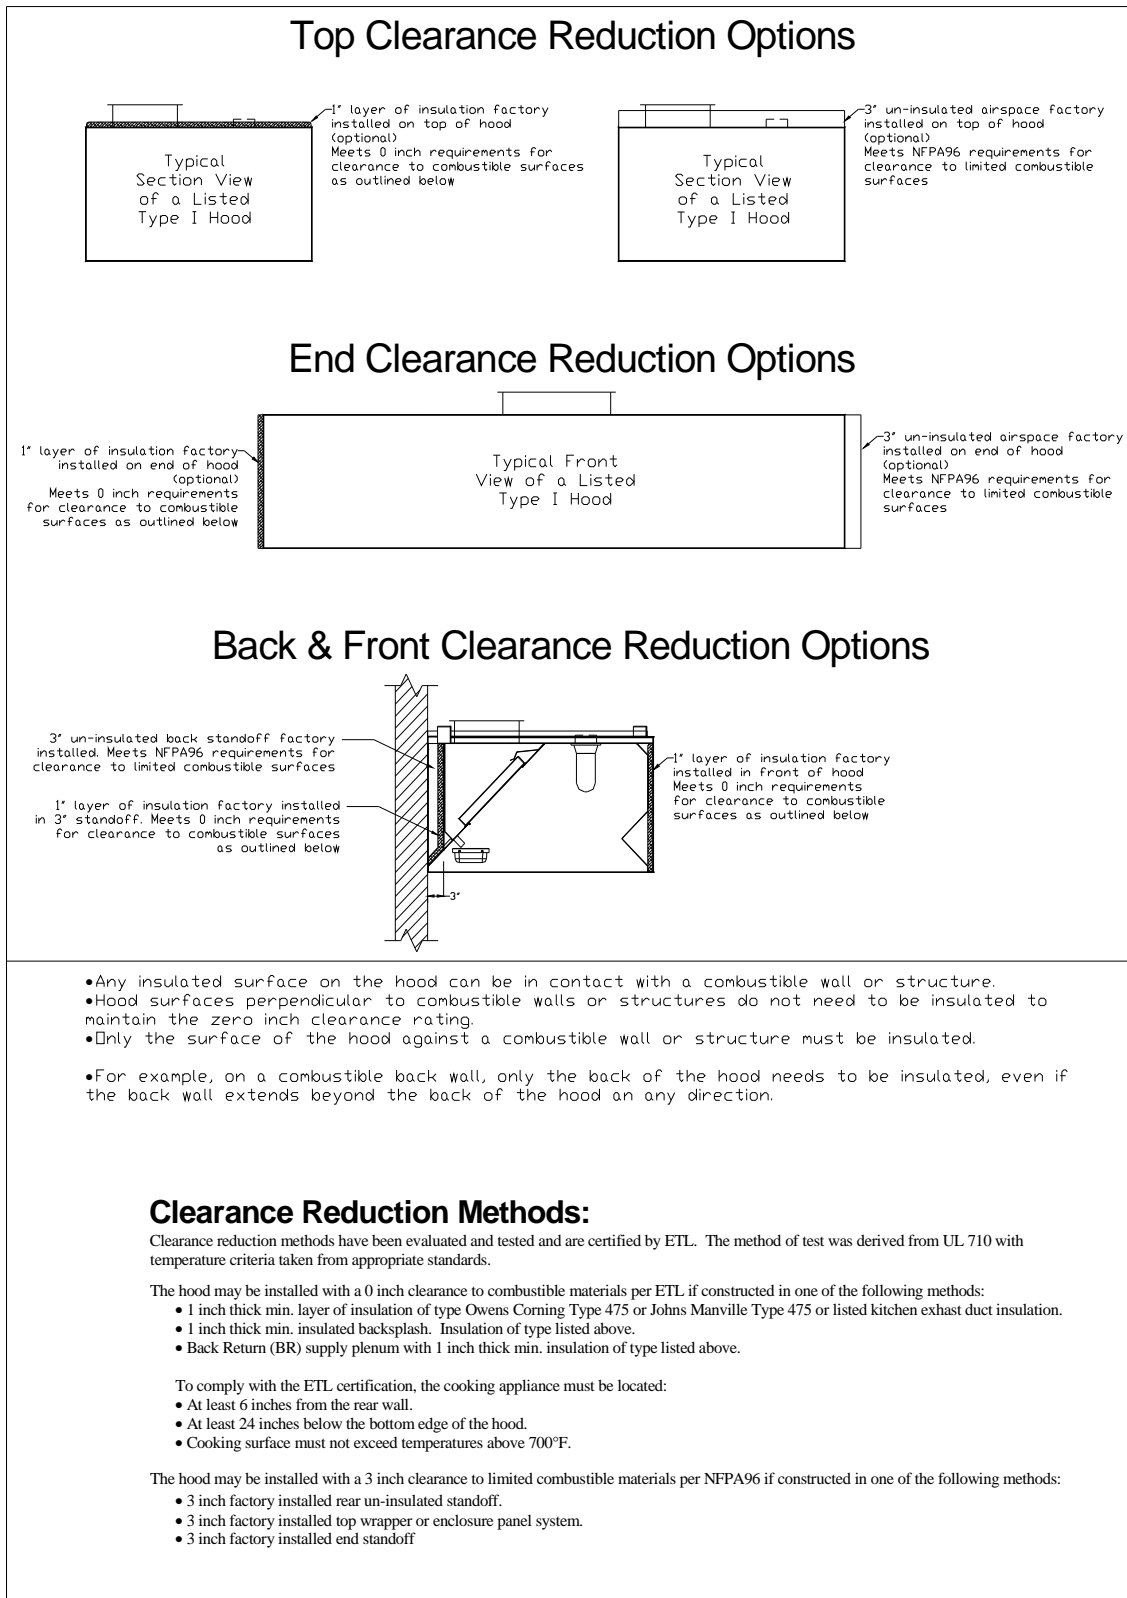

Figure 1
6. Determine if adequate room is available to install the hood and all ductwork with proper clearances from combustible material. IMC, NFPA96 and local authorities having jurisdiction call for a minimum clearance (typically 18 inches for type 1, grease rated hoods) between the cooking hood(s), exhaust ducts, and building materials which are combustible. However, IMC and NFPA96 outline acceptable clearance reduction methods; **most authorities accept the clearance reduction methods approved in the manufacturer’s ETL listing for Type 1, grease rated hoods. See Figure 1.** It is important to check with the local authority having jurisdiction to determine that the installation method is satisfactory to meet their requirements prior to installing the equipment.